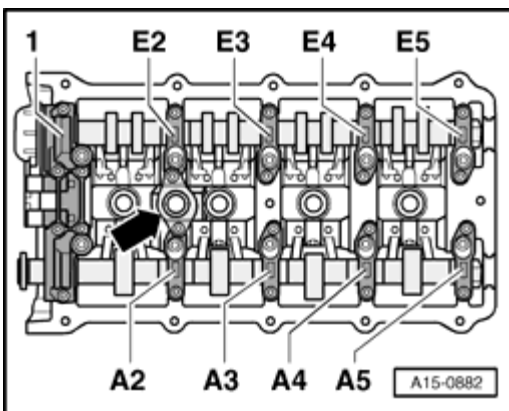

Fig. 360: Removing/Installing Bearing Caps
- Note installation position and allocation --> **Fig. 360**